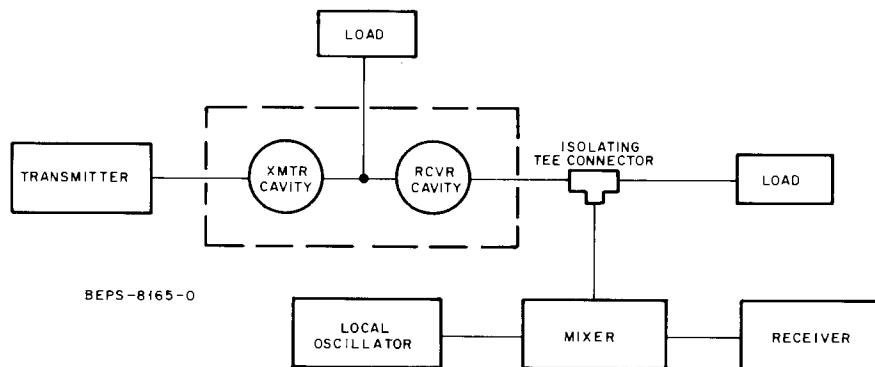

Figure 8.
Step 10. Connect the equipment as shown in Figure 8.
Step 8. Connect the equipment as shown in Figure 8.